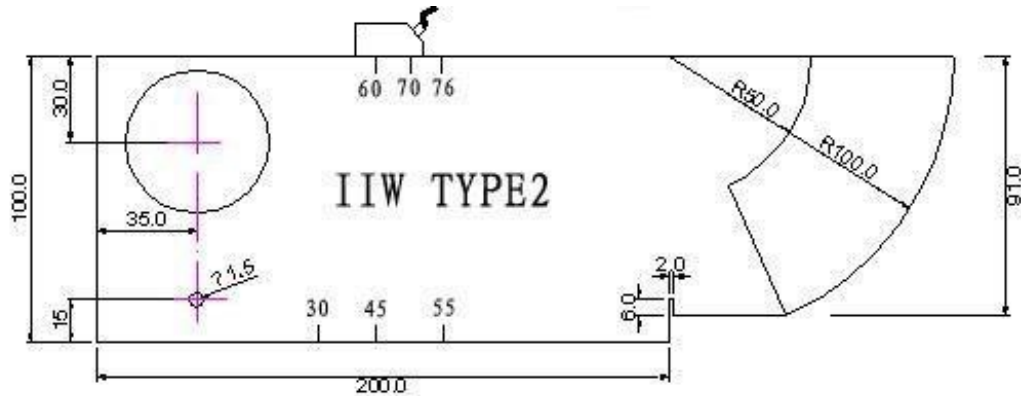

Fig.4.2 ANG ECHO
- (2) By the <Enter > key you can see ANG echo, Then put your probe as fig4.2, Try to find the highest echo of the hole ($\varnothing 50$), then press , you will see ANG=XXX.X.